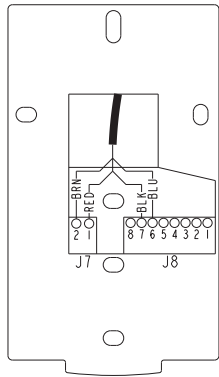

Fig. 4 — Harness Wiring Connections
5. The electrical wire harness for the CO₂ sensor is factory installed. Locate the four wires in the power exhaust section. Wire the electrical harness to the sensor as shown in Fig. 4.